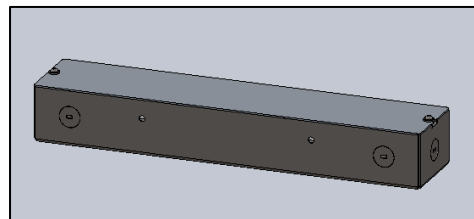

FIG.4 REMOTE BOX WITH DRIVER INSTALLED
3. REMOTE DRIVER BOX WITH DRIVER INSTALLED (as shown in FIG. 4)